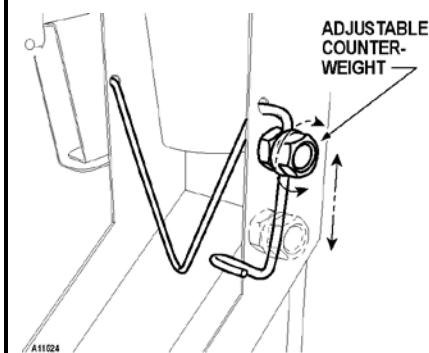

Figure 9d. Counterweight
- 4b. If the cup gets stuck at the counter-balance wire, then loosen the counterweight and slide it up to lessen the weight against the cup. See **Figure 9d**. Repeat step 4.